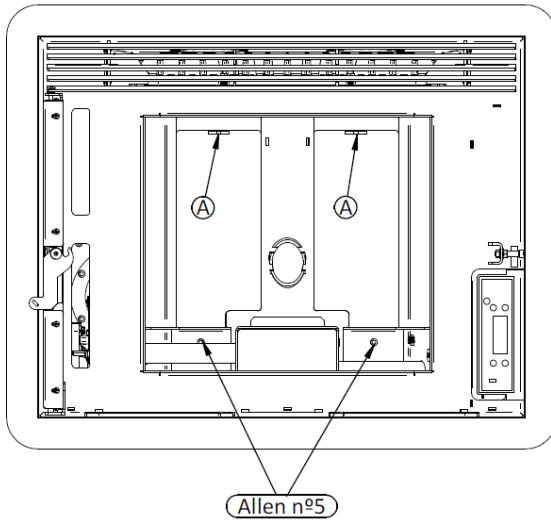

Figure 47 - Removing rear plates
- Once the lower plates have been removed, it is possible to remove the upper plates by pushing the plate at point A described earlier in Figure 47.